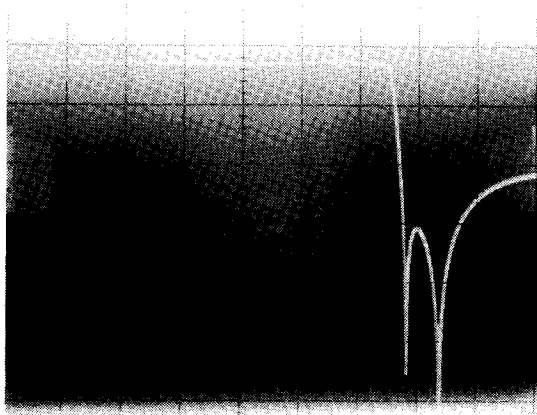

Fig. 4-2: Typical Card #3 Frequency Response
- A ☐ To test the left channel, inject signal at TP4 and measure the frequency response at TP1. Fig. 4-2 shows a typical Card #3 frequency response measurement. The scale of Fig. 4-2 is 10dB/div vertical and 2kHz/div linear horizontal.